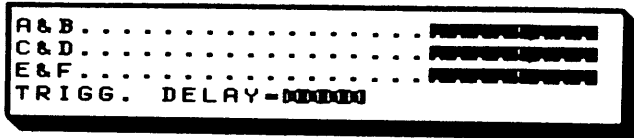

FIGURE 5-11. TRIGGER WORD
5.3.1.4 Trigger Delay. The Logic Analyzer can be programmed to delay the end of a recording after a specified Trigger Word is recognized (the Trigger Word is defined in the TRIGGER MENU: See paragraph 5.3.3). This allows data to be recorded both before and after the Trigger Word. The actual position of the Trigger Word is set in the "TRIGG.DELAY" field heading and is represented as a "T" in a bar graph showing relative size and memory of each pod group (See Figure 5-11). Memory depth minus the Trigger Delay is equal to the Trigger location. The programmed delay number is counted from the right side of the bar graph (i.e., zero is at the far right side). The dots on the time line represents 100 memory locations. Note that the location of the Trigger word may be set outside of the memory. If the number is greater than the memory depth available, it will be displayed as: "T<-". The maximum number programmable in both 1K and 2K Formats is 8192 memory locations.